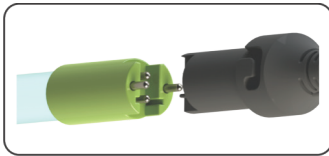

Figure 8a. Standard Output UV Lamp Connection
Step 13: Plug the lamp connector into the lamp. Note the keying for proper alignment (see Figure 8a, 8b). Insert the lamp connector into the gland nut and turn the connector approximately $\frac{1}{4}$ turn to lock the connector to the gland nut as in Figure 9.